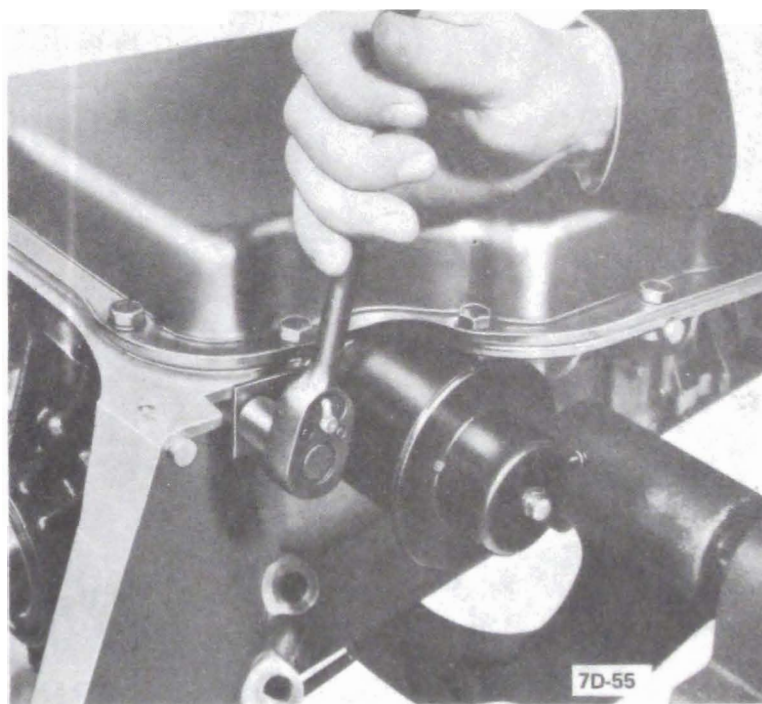

Figure 7D-55
5. Remove modulator assembly and "O" ring seal from case. See Figure 7D-57.